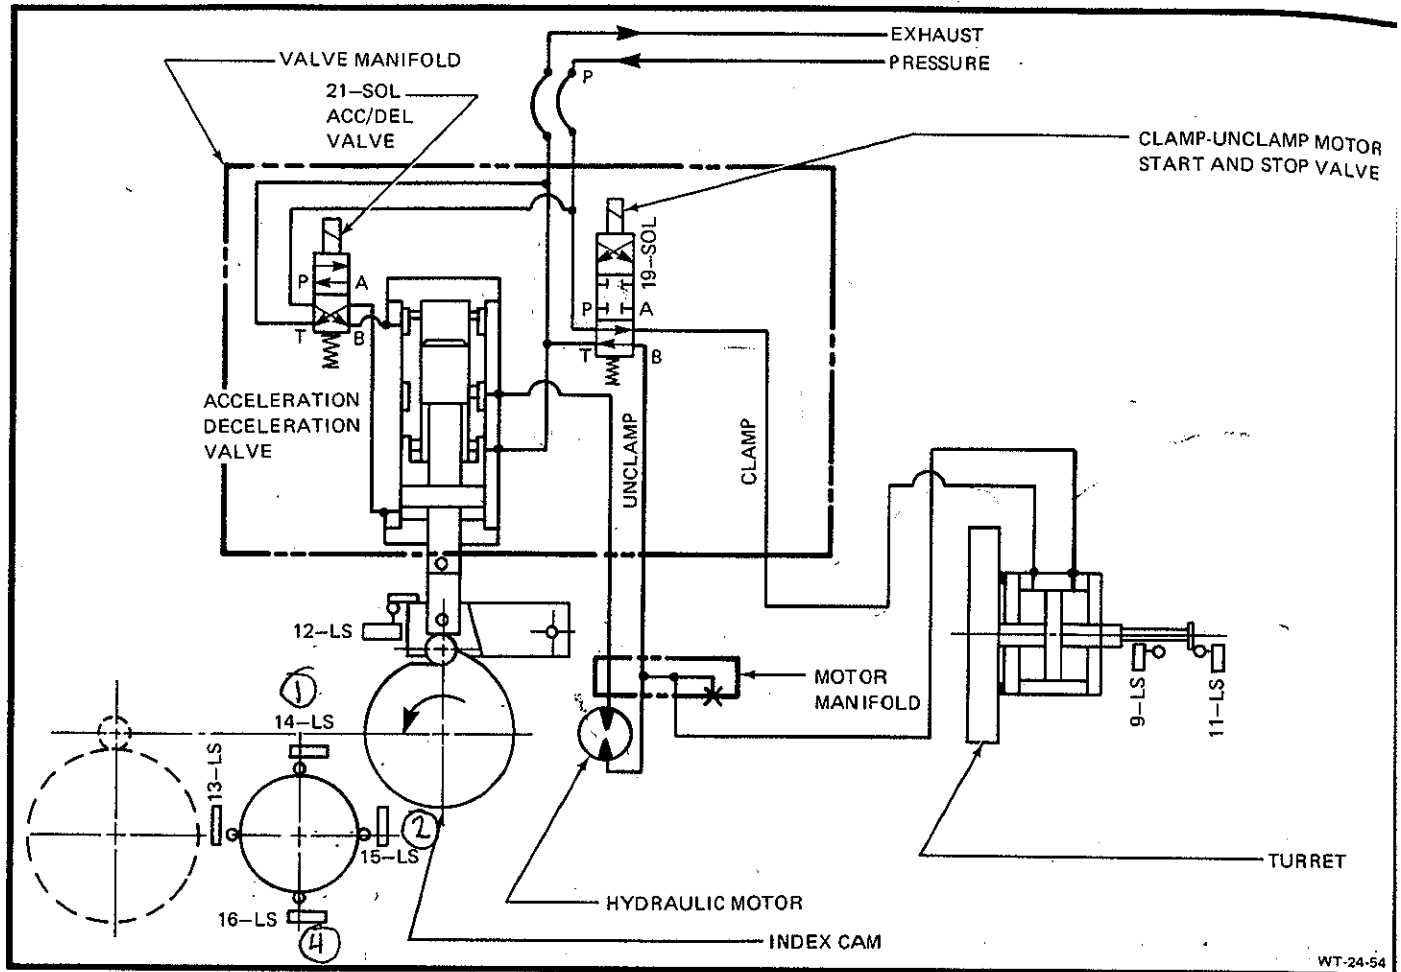

Figure 7.2-3
2. Solenoid 19 is energized and the clamp/unclamp solenoid valve shifts to the unclamp position. Limit switch 9-LS is released when the turret begins to move axially to unclamp. See Figure 7.2-3 for the hydraulic diagram of the turret.